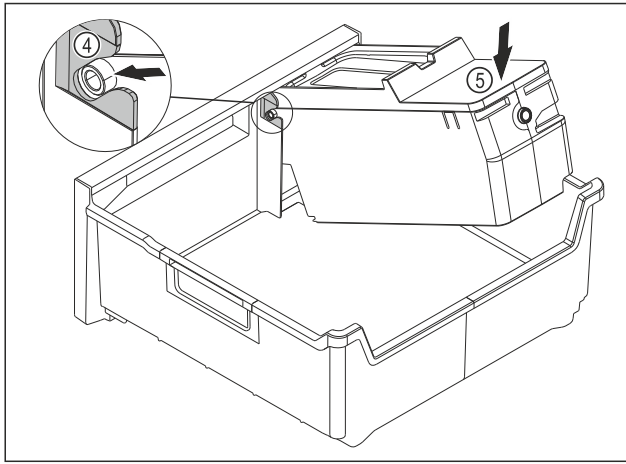

Fig. 72
- ▶ Installing the EasyTwist-Ice body: Push the axes for the EasyTwist-Ice body into the guides Fig. 72 (4).
- ▶ Press the EasyTwist-Ice body Fig. 72 (5) down at the back.